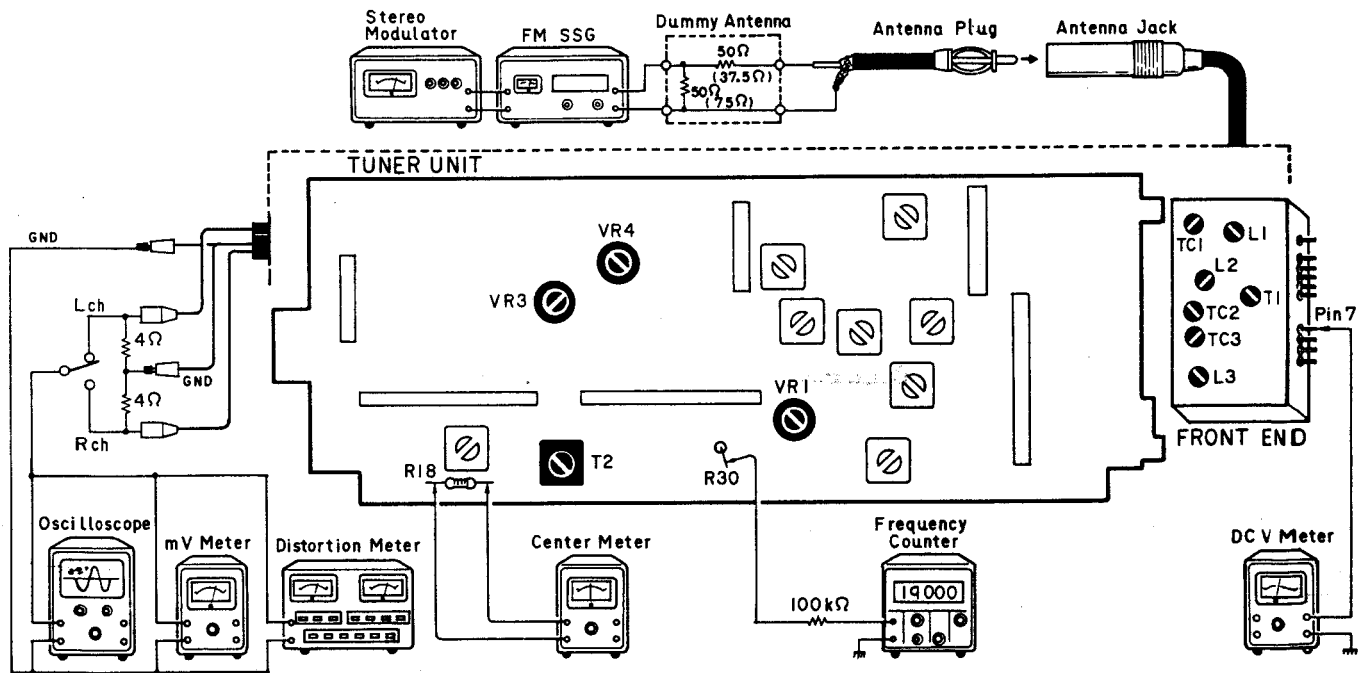

Fig. 23
- Connection Diagram (Shown in Fig. 23)